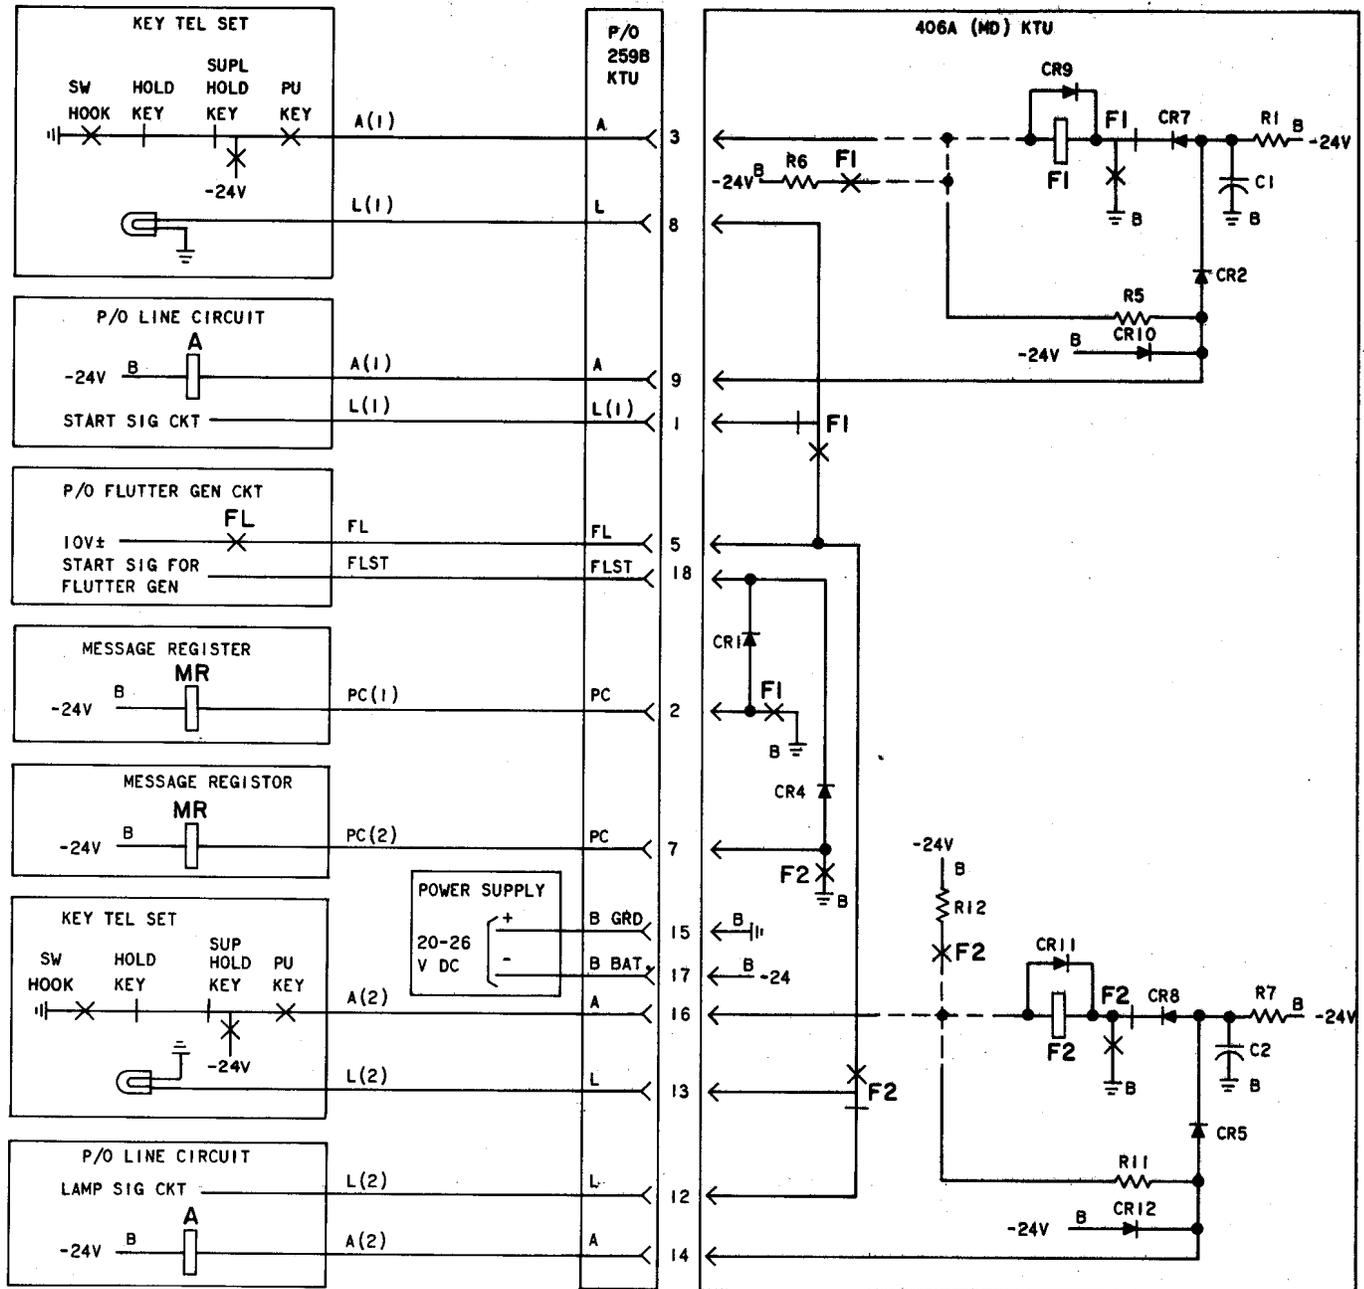

Fig. 4—Condensed Functional Schematic of 406A KTU (MD) (Supplementary Hold Detector Circuit)
B. 406A KTU (MD) (Supplementary Hold Detector Circuit)
2.02 The 406A KTU (MD) (Fig. 4) is a 4-inch, 18-contact unit which must be used with a 259B or 272A KTU. The 406A KTU has been replaced by the 429A KTU (see paragraph 2.09 for features) which conforms to standard contact lead configuration.